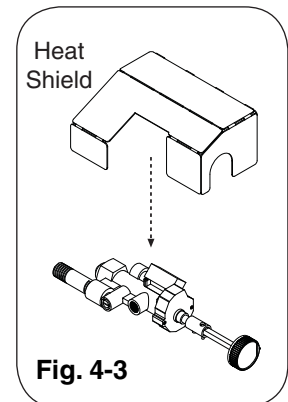

Fig. 4-3
Cover the APK-17(M)(P) safety valve with the heat shield (PARTS LIST item 2) as shown in Fig. 4-3.